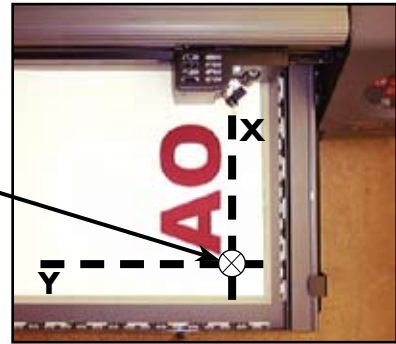

Figure 33. Setting the **Origin** for digitizing on the cutter.
3. Use the **Arrow** keys to position the carriage and table so that cut/plot file will be in the positive x and y directions from the origin (**Figure 33**).